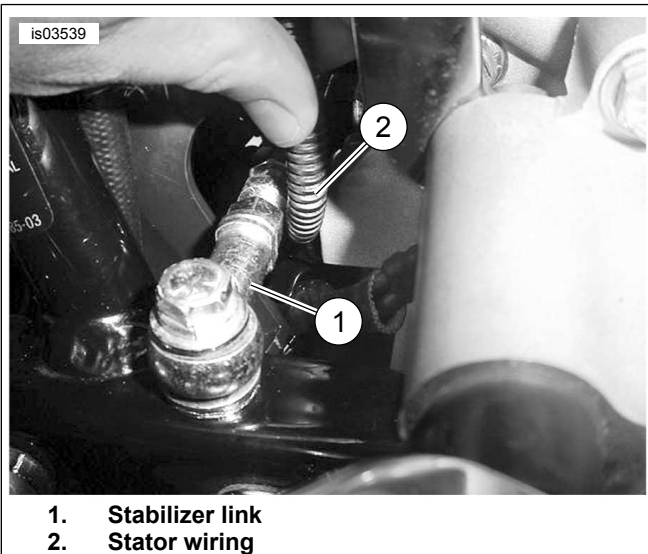
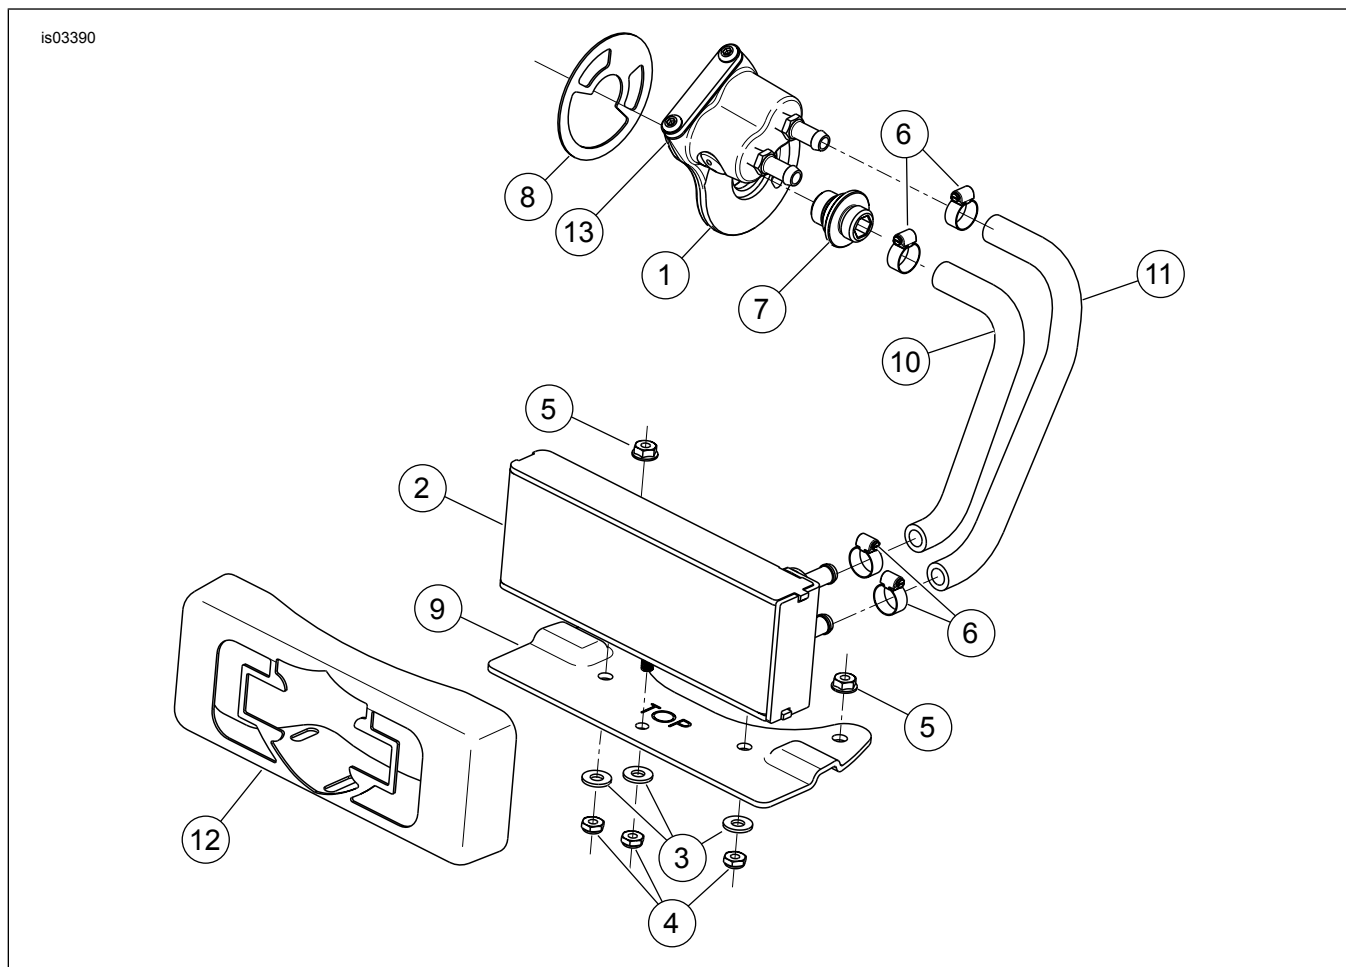

Figure 4. Stator Wiring and P-clip
Figure 6. Service Parts for Touring Oil Cooler Kit with Chrome Oil Cooler Cover
See Figure 6 and Table 1.
3. See Figure 6. With the oil adapter gasket (8) and oil adapter assembly (1) in place, install the oil adapter fitting (7) through the oil adapter assembly with the coated threads facing inward and internal hex facing outward. Tighten to 16.3–21.7 N·m (12–16 ft-lbs).
7. See Figure 4. Do not remove P-clip from stud. Rotate the P-clip and the stator wire (2) on left side 180 degrees so the stator wire will be routed to inside the left leg of regulator.
8. Verify that the stator wiring is routed under the engine stabilizer link (1). Leave the end of the stator wiring out near the left frame downtube. Be sure the P-clip on the right side is in place, it will not be removed.
9. See Figure 6. Install the oil cooler cover (12) over the oil cooler studs, then install the mounting bracket (9) over the studs. Secure the bracket and cover to the oil cooler with the three washers (3) and three nuts (4). Tighten the nuts to 10.8–13.5 N·m (96–120 in-lbs).
13. See Figure 6. Install the long hose (11) and short hose (10) from the kit. Follow the markings on hoses to connect onto the oil cooler and oil cooler adapter.